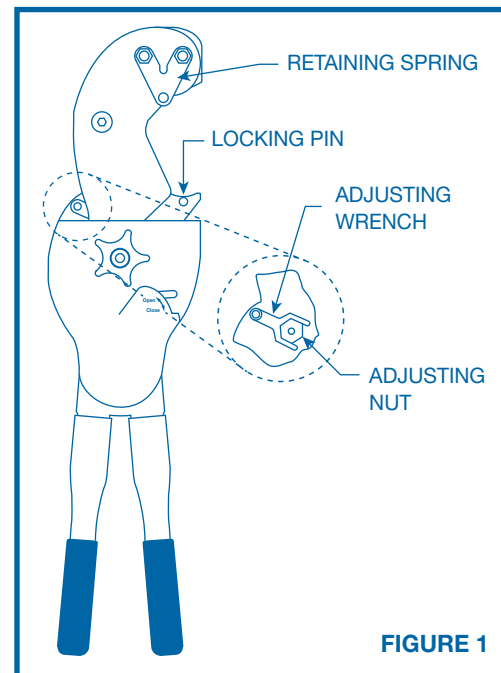

FIGURE 1
Open tool per instruction 1.0. Hold tool with die retaining spring facing you (Figure 1). The upper die goes in first. Hold the upper die with the desired crimping nest facing towards movable jaw. Insert the upper die under the die retaining spring in tool head.
Hold the lower die with the rib down and locking pin notch to the right. Slip rib of lower die into groove in movable jaw. Push the lower die into movable jaw until the die is properly seated and the locking pin (Figure 1) snaps into the notch.
Open tool per instructions 1.0. Push locking pin (Figure 1) all the way down, disengaging it from the lower die. Pull lower die out. Pull upper die out from under the die retaining spring.
- 7.2 Remove screw from adjusting wrench (See figure 1) using the 1/8 inch Allen key provided in the carrying case.